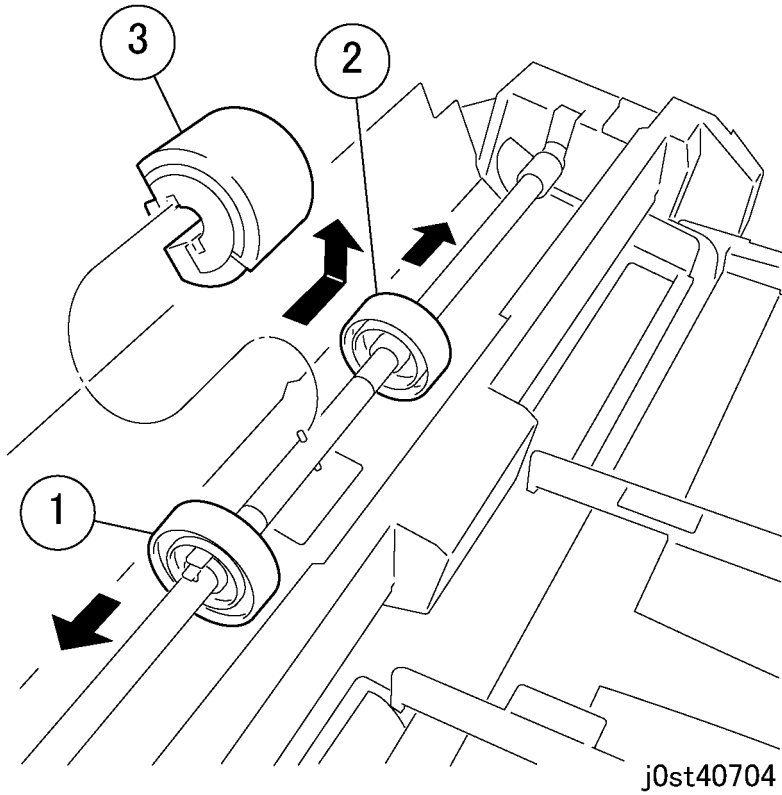

Figure 2 Removing the MPT Feed Roll (j0st40704)
3. Remove the MPT Feed Roll. (Figure 2)